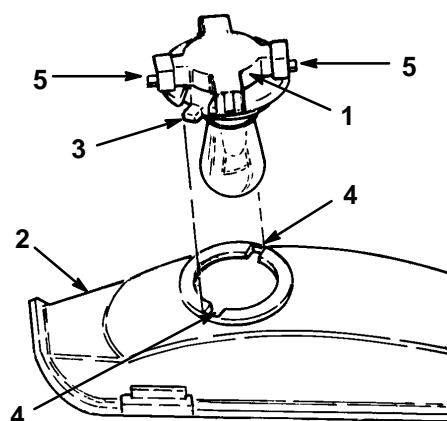

Figure 53
3. Rotate the bulb holder 1/4 turn counterclockwise and remove it from the reflector (Fig. 53).
2. The bulb holder has two tabs (Fig. 53). Align the tabs with the slots in the reflector, insert the bulb holder into the reflector and rotate it 1/4 turn clockwise until it stops.